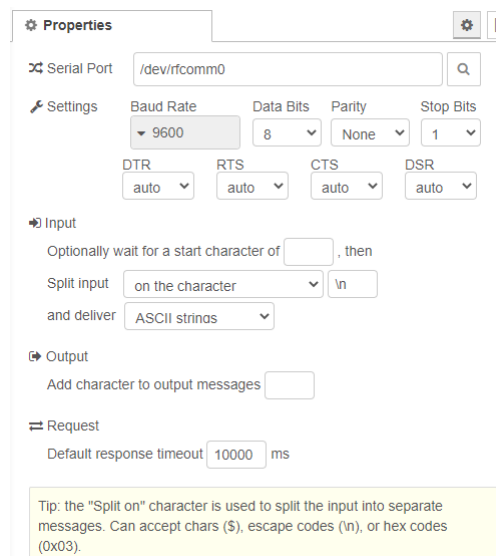

Figure 5.5: Serial Node Settings
19. Before deploying the project, we must configure the Serial node. Double-click on the node and configure it as in Figure 5.5.